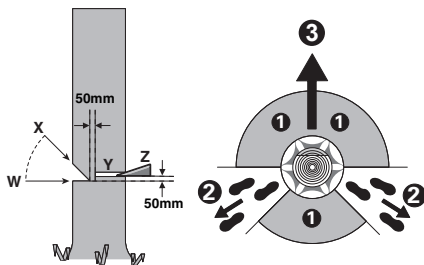

Figure 1
An escape path should be planned and cleared as necessary before cuts are started. The escape path should extend back and diagonally to the rear of the expected line of fall as illustrated in Figure 1.
Make the notch 1/3 the diameter of the tree, perpendicular to the direction of falls as illustrated in Figure 1. Make the lower horizontal notching cut (W) first. This will help to avoid pinching either the saw chain or the guide bar when the second notch (X) is being made.
Make the felling back cut (Y) at least 50 mm higher than the horizontal notching cut as illustrated in Figure 1. Keep the felling back cut parallel to the horizontal notching cut. Make the felling back cut so enough wood is left to act as a hinge. The hinge wood keeps the tree from twisting and falling in the wrong direction. Do not cut through the hinge. As the felling gets close to the hinge, the tree should begin to fall. If there is any chance that the tree may not fall in desired direction or it may rock back and bind the saw chain, stop cutting before the felling back cut is complete and use wedges of wood, plastic or aluminium (Z) to open the cut and drop the tree along the desired line of fall (3).
alert for overhead limbs falling and watch your footing. (See Figure 1)